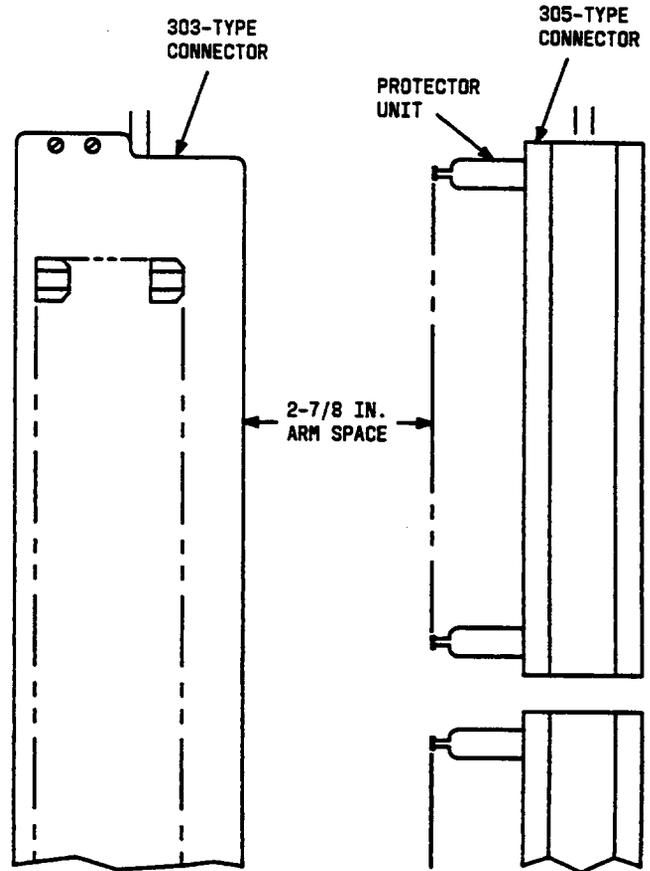

Figure 7—305-Type Connector Mounted to the Right of a 303-Type Connector
- When a 305-type connector is mounted immediately to the right of a 303-type connector, it is recommended that one frame vertical be skipped to facilitate access to 303-type connectors for running cross-connects as shown in Figure 7. There is no need to skip a vertical when a 305-type connector is mounted to the left of a 303-type connector.